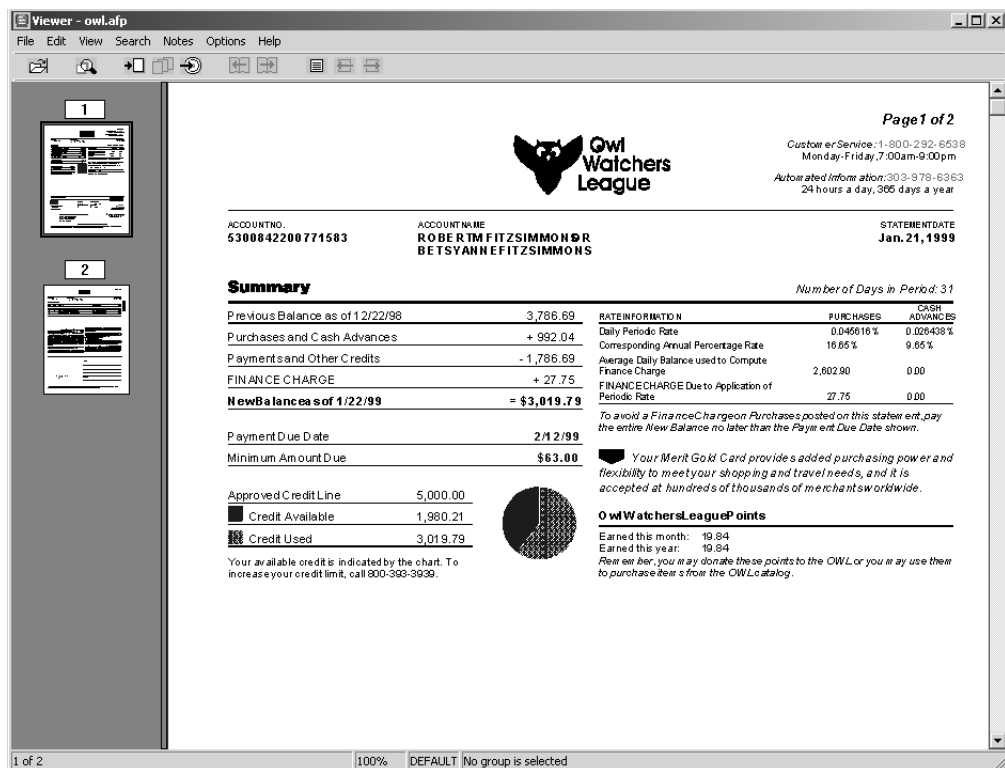

Figure 88. Spooled File Displayed
- See your spooled file on the display (see Figure 88).